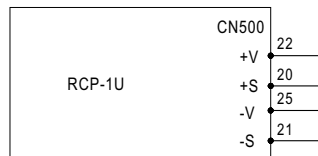

Figure 3-5: Connection for using the "Local Sense" function
- ⊙ **Notice:** It is required to use the "Remote Sense" function to let the PSU work properly. If not, the "Local Sense" is still required that "+S" should be shorted to "+V" and "-S" to "-V" as Figure 3-5. Or the output voltage will be too high which may trigger the over voltage protection.